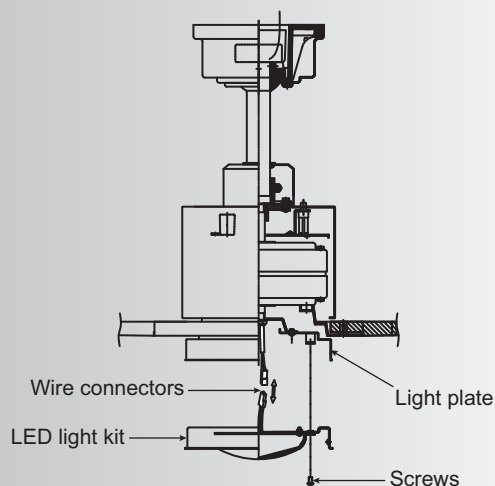

Fig. 18
Step 1. Loosen the three mounting screws on the inside of the LED light kit. (Fig.18)
Step 2. While holding the LED light kit under the fan motor, make the wire connections: (Fig. 18)
Step 3. Tuck the connections neatly into the light plate. Place the key holes on the LED light kit over the 2 screws previously loosened from the light plate, turn the LED light kit until it locks in place at the narrow section of the key holes. Secure by tightening all three screws. (Fig.18)